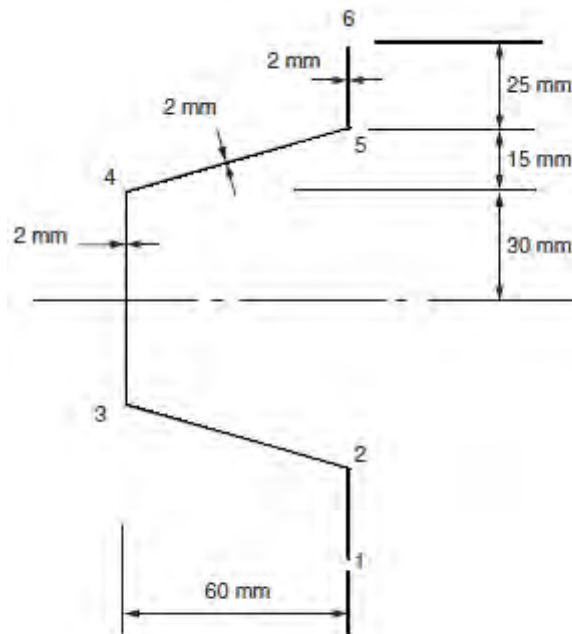

Figure 7:
7. Determine the rate of twist per unit torque of the beam section shown in Figure 7 if the shear modulus G is $25\,000\text{ N/mm}^2$. [16]